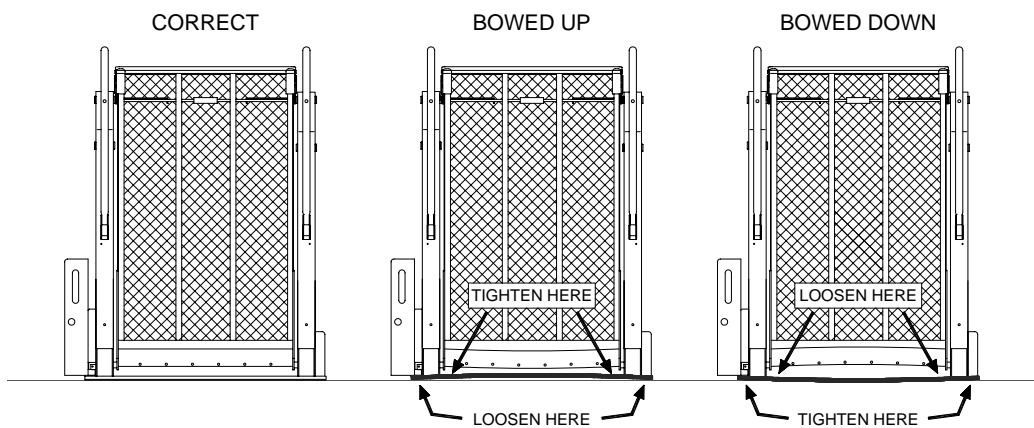

FIGURE 2-1: EXAMPLES OF BASEPLATE WARPAGE
- Refer to **Figures 2-1** and **2-5**. Improper torquing sequence of baseplate bolts may result in a warped or bowed baseplate, which can cause platform to move erratically.